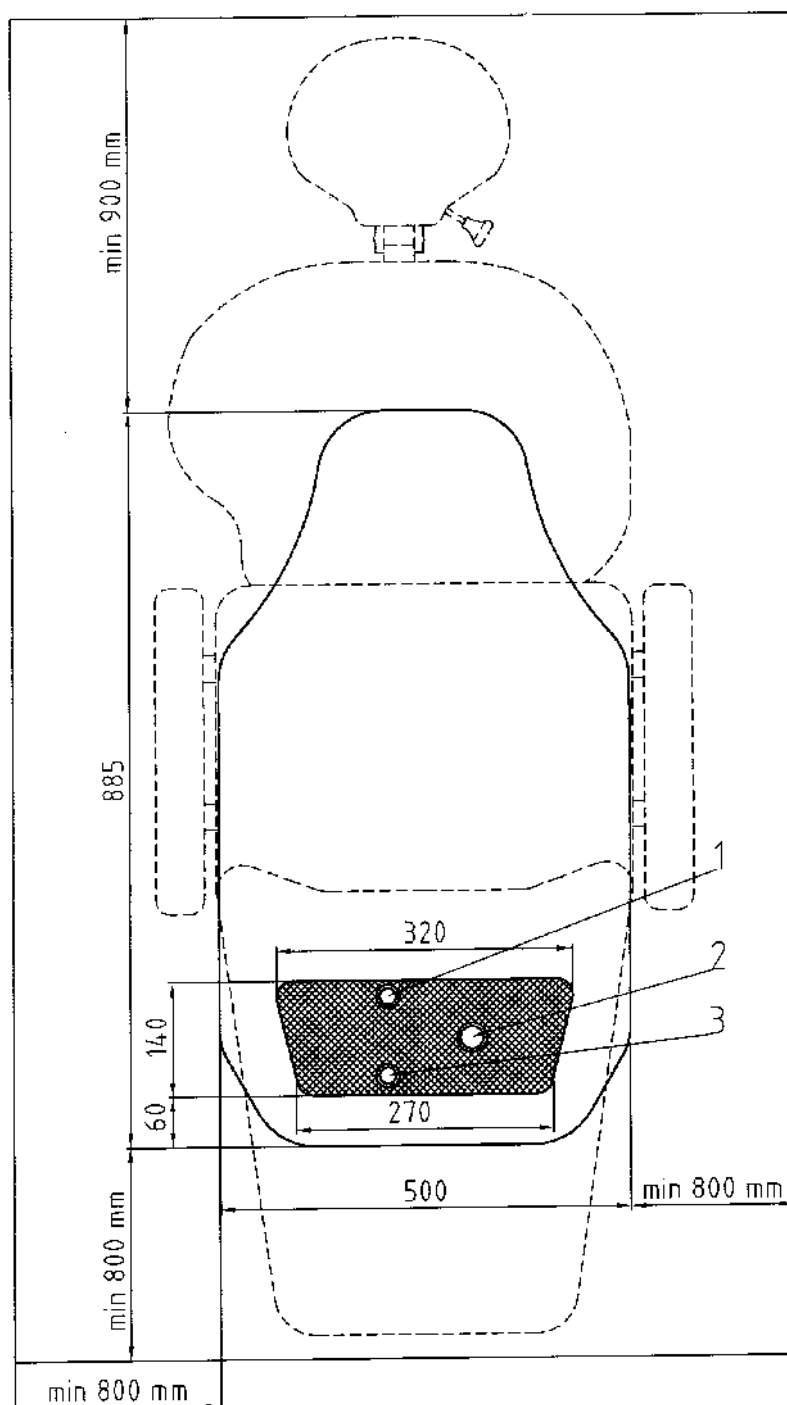

Fig.2
In order to connect the unit to the media (water, air, power, sewerage system) the connections into the floor should be made before installation (fig 2)
- water ((valve which ends with an external thread 1/2", pos. 1 on fig 2),
- sewerage system (Ø50, pos. 2 on fig 2) ,
- air (pressure hose Ø_{wew}6mm/ Ø_{zew}12mm, pos. 3 on fig 2),
Additionally, on the fig. 2 the free space around unit is shown. In this area the floor should be free of obstacles in order to avoid collisions.